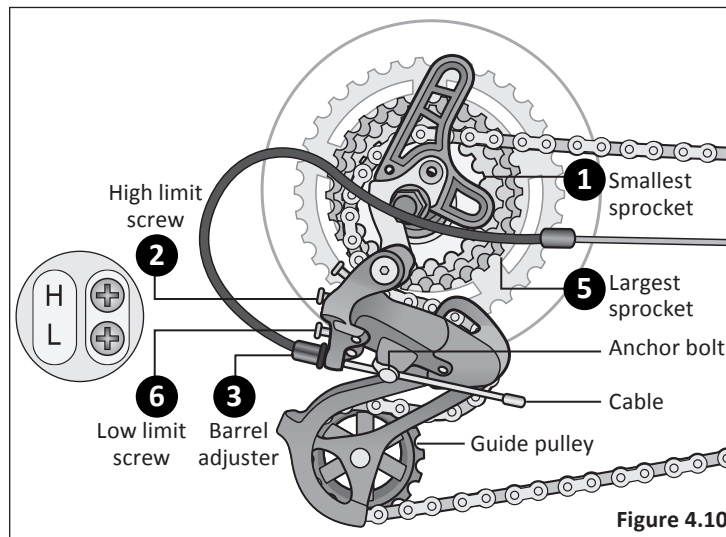

Figure 4.10
- ❷ Adjust the high limit screw so the guide pulley and the smallest sprocket are lined up vertically. **Figure 4.10**
- ❸ Shift through the gears, making sure each gear achieved is done quietly and without hesitation. If necessary, use the barrel adjuster to fine-tune each gear by turning it the direction you want the chain to go. For example, turning clockwise will loosen the cable tension and move the chain away from the wheel, while turning counter-clockwise will tighten cable tension and direct the chain towards the wheel.
- ❹ Shift the rear shifter to gear one and place the chain on the largest cog.
- ❺ Adjust the low limit screw in quarter turn increments until the guide pulley and the largest cog are aligned vertically.
- ❻ Again, shift through each gear several times, checking that each gear is achieved smoothly. It may take several attempts before the rear derailleur and cable is adjusted properly.